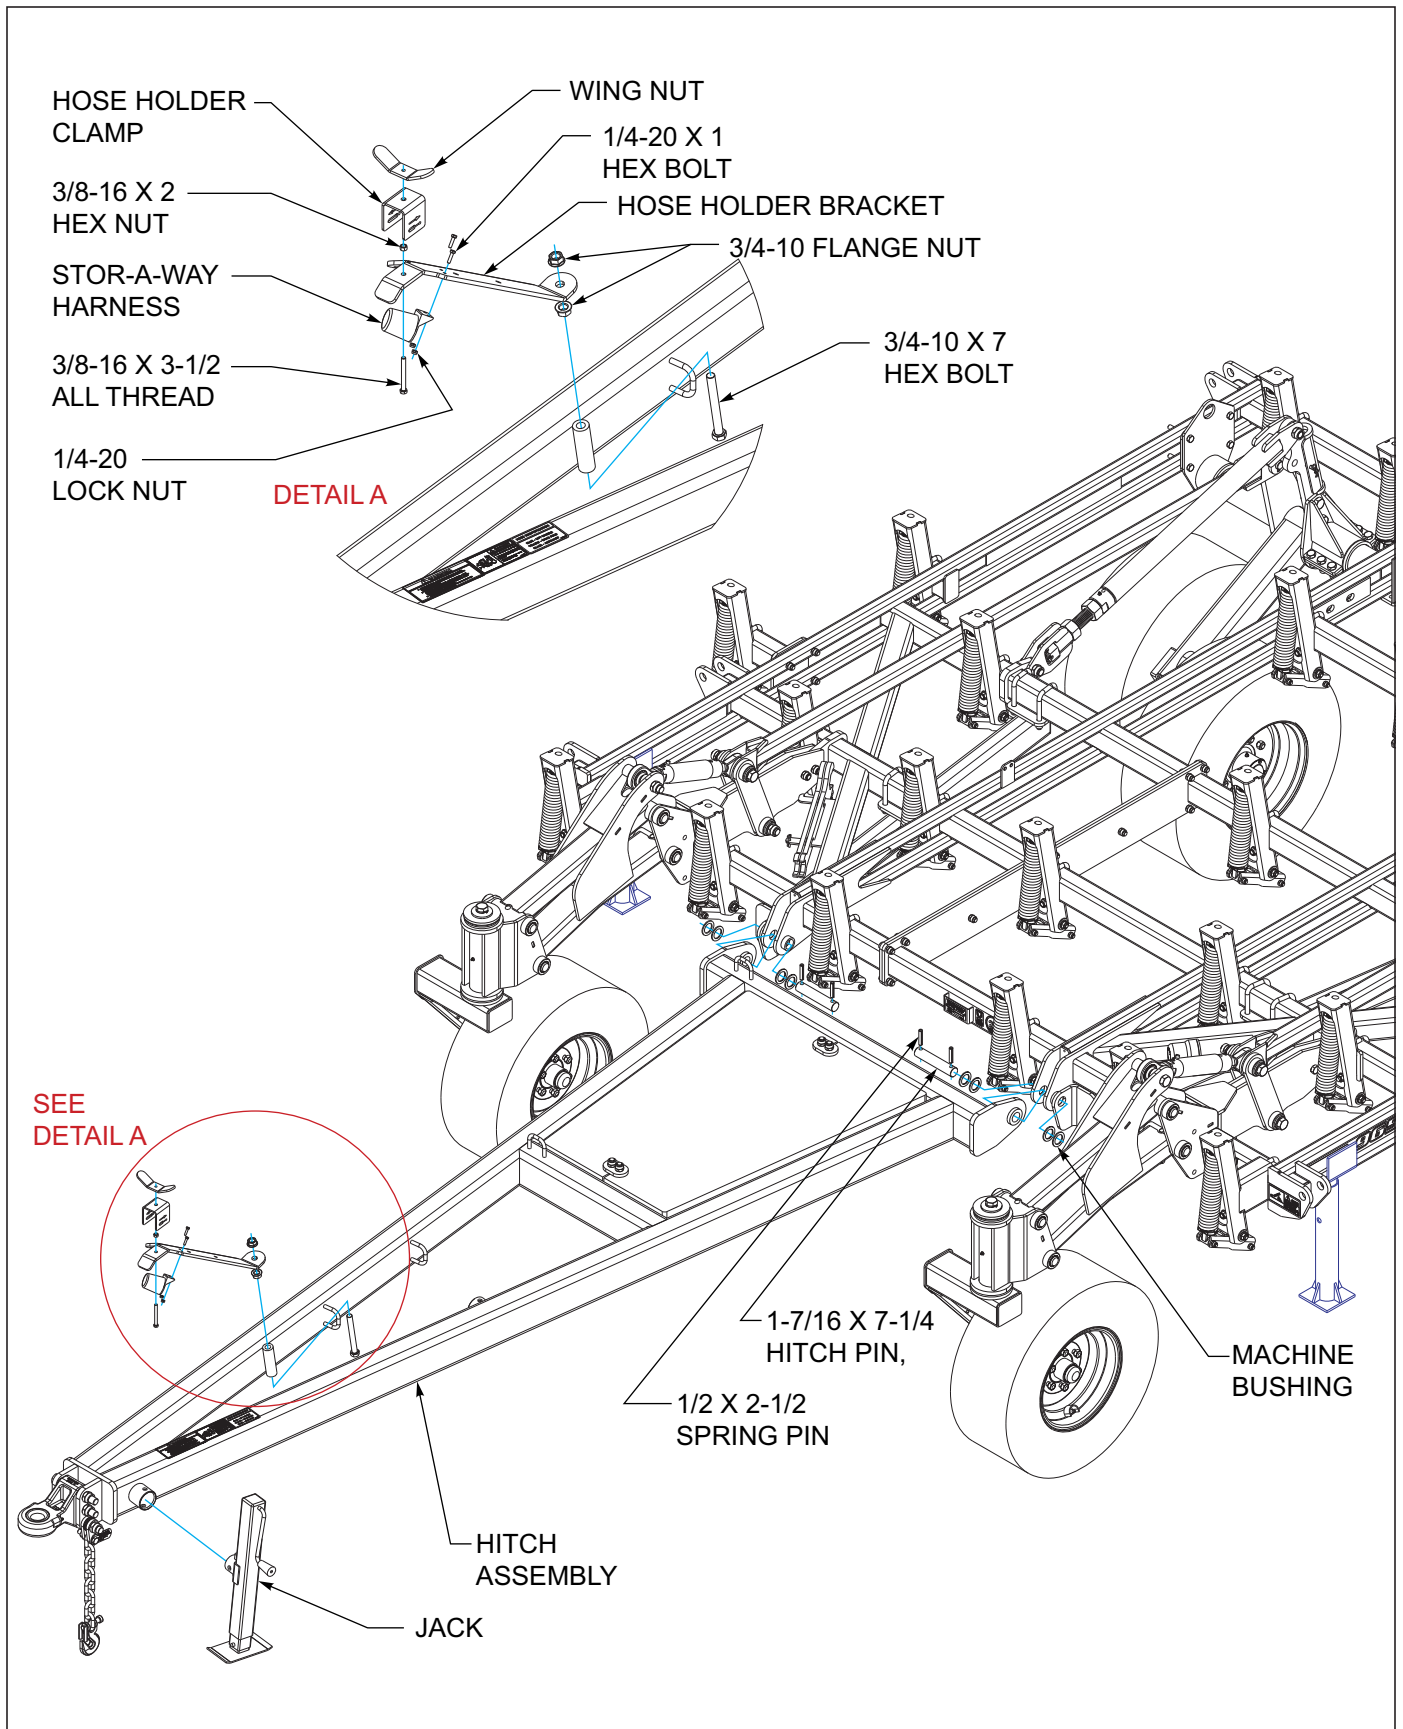

Figure 3-4: Hitch Assembly
1. Connect hitch assembly to the front of the center frame using 1-7/16 x 7-1/4 hitch pin, machine busings, and 1/2 x 2-1/2 slotted spring pin **See Figure 3-4.**